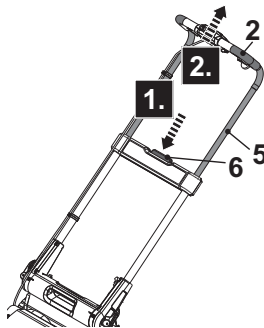
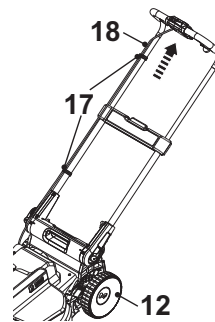

Fig. 3
Fig. 4
**NOTE:** For first assembly, secure the handle assembly with the clamp lever (10) in the middle position of the tilt adjustment mechanism by aligning the indication line (8a) with the indicator (9a) of transport handle (9). Ensure the handle assembly is assembled on the same height level on both side.
4. Press down the lock button (6) and hold it in position (Fig. 3, step 1), then grasp the grip handle (2) to pull out the upper handle bar (5) (Fig. 3, step 2).
5. Release the lock button (6) and continue to pull out the upper handle bar (5) all the way until an audible click is heard.
6. Secure the inter-connection cord (18) with two wire clips (17) (Fig. 4). Pull the inter-connection cord (18) to avoid contact with the rear wheel (12) if necessary.
**NOTE:** Make sure the clamp levers (10) are properly tightened before using the product.